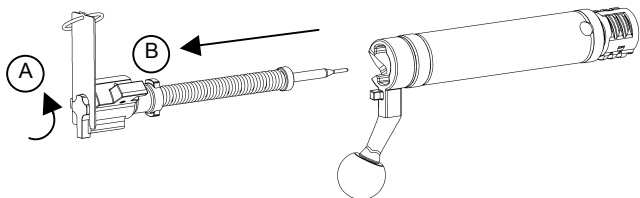

Figure 24.
- Rotate the cocking piece shroud counter clockwise about 120 degrees, or 1/3 of a turn (Figure 24, Step A.) and withdraw cocking piece (Figure 24, Step B.) from the bolt carrier.